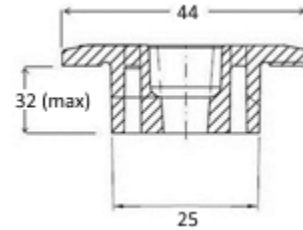

Fig. 4a: cross section of a mounting clamp to be used for attaching the modules to support structure (minimum length is 40 mm).
- Silfab recommends the use of clamps with a design as shown in Fig. 4a (or equivalent). The use of improper clamps will void the Warranty.